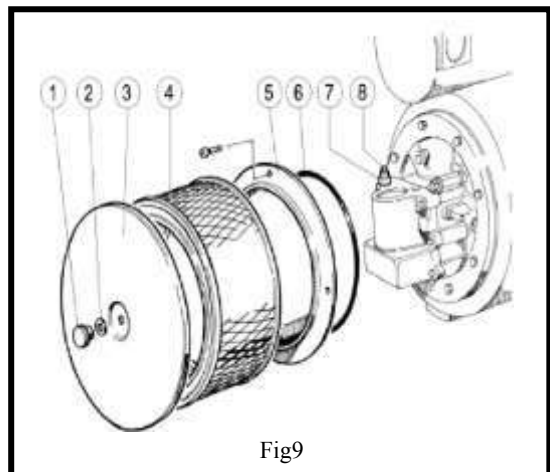

Fig9
If there is a receiver, close the valve downstream of the receiver. Operate manually on the compressor as shown in figure 9: remove the filter element by unscrewing the lock knob (1) and washer (2), remove the cover (3), pull out the filter element (4), unscrew the relative screws to remove the cover (5) and pull out the O-Ring (6). The Servovalve can now be accessed. Loosen the lock nut (7) and tighten (to increase pressure) or loosen (to decrease pressure) the pressure gauge located on the separator body. Open and close the delivery gate valve slowly in order to stabilize and check calibration. Lastly, secure the screw (8) by tightening the lock nut (7), put back the O-Ring (6) taking care that it is not warped (replace if necessary), the cover (5) and then the filter element (4). Put back the cover (3), the washer (2) and tighten the lock knob (1). Now the previous value of the parameter [MAX PRESSURE] in the menu [CUSTOMER PARAMETER] can be restored.